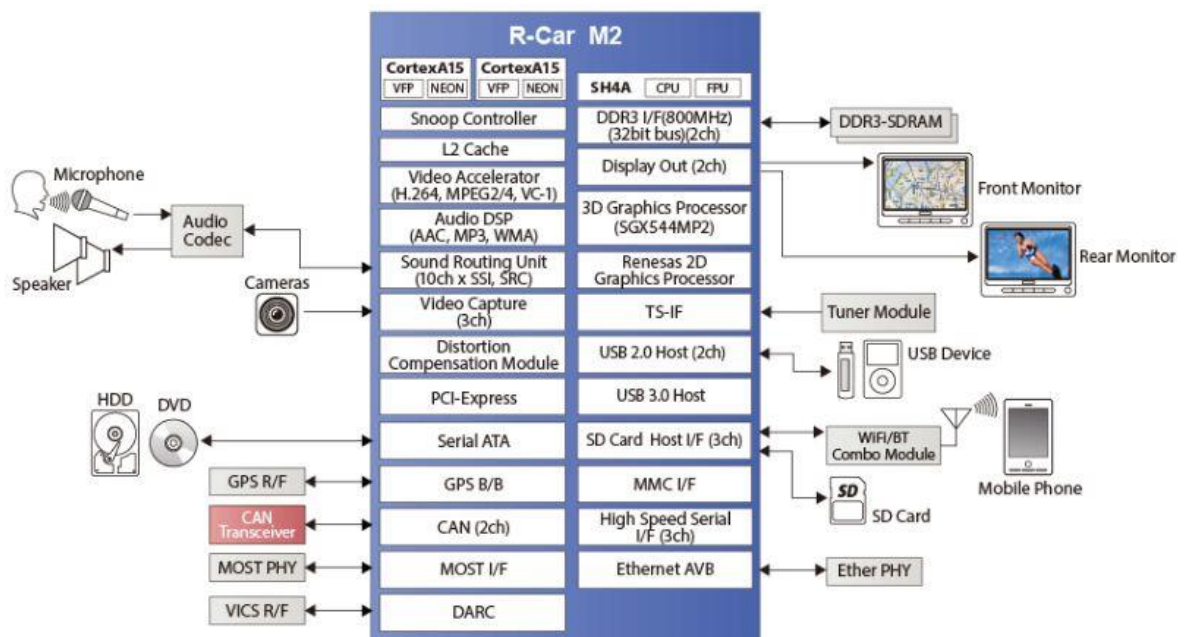

Figure 1: R-Car M2 System Block Diagram
**Figure 1** shows a typical system block diagram of the R-Car M2 SoC application. The embedded ARM®Cortex™-A15 Dual Core and SH4A core require a suitable power management system that is readily achieved using the Dialog DA9063 with DA9210.